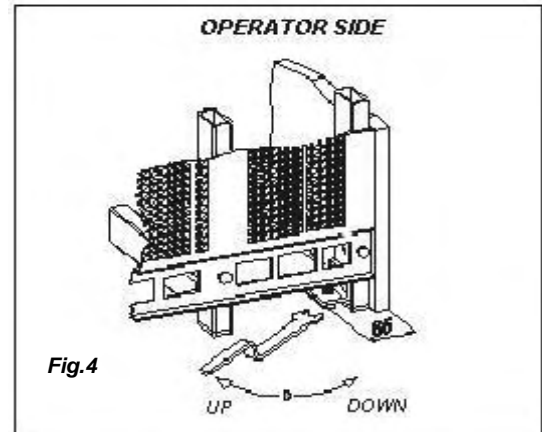

Fig.4
- Once the cabinet is placed in the desired area, it must be put horizontally through the adjustable feet (fig.4).